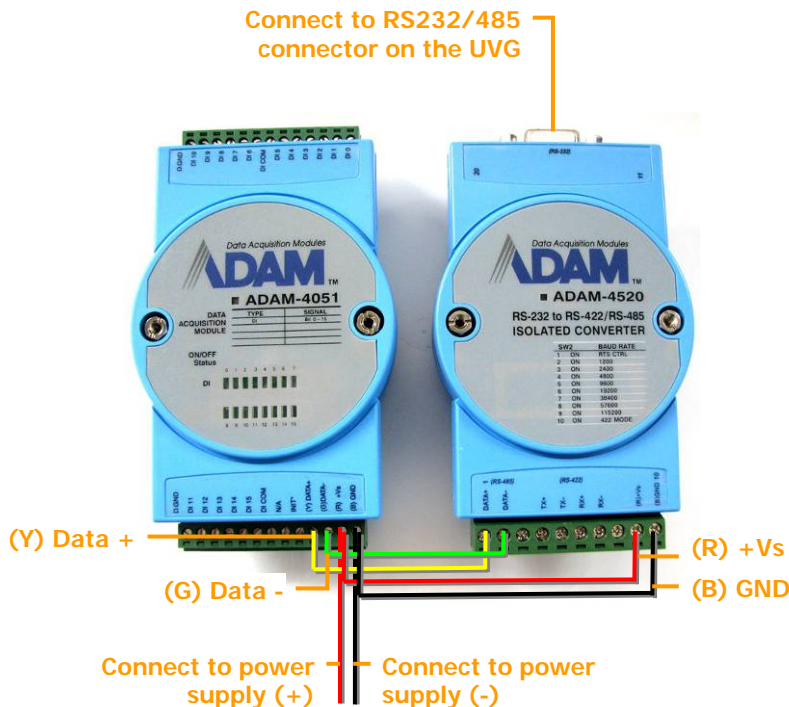

Figure 10: Connecting the module to the converter, the UVG400, and the power supply
3. Connect the ADAM-4051 module to the ADAM-4520 isolated converter as follows (see figure 10, page 15):
5. Connect the ADAM-4051 module to the power source as follows (see figure 10, page 15):
- Connect the negative (-) wire of the power supply cable to the **(B) GND** connector on the module